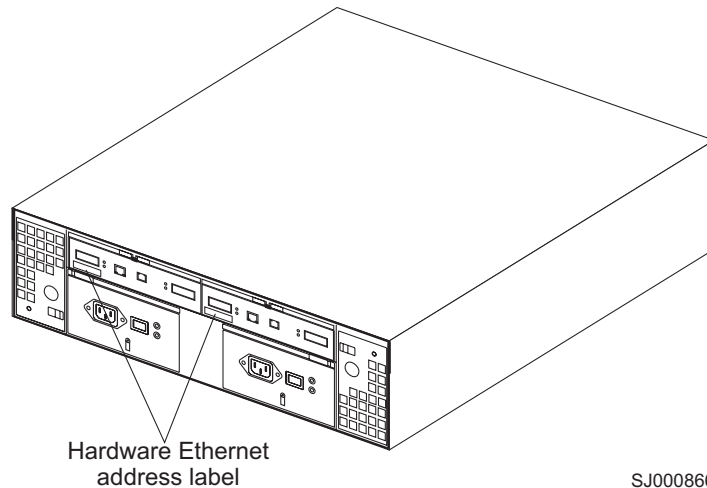

Figure 11. Locating the Ethernet MAC address (machine types 3542 [FAStT200], 1724 [DS4100], and 1722 [DS4300])
1. Locate the Ethernet MAC address at the back of the unit, under the controller fibre-channel host ports, as shown in Figure 11 on page 59. The number will be in the form xx.xx.xx.xx.xx.xx (for example, 00.a0.b8.20.00.d8).